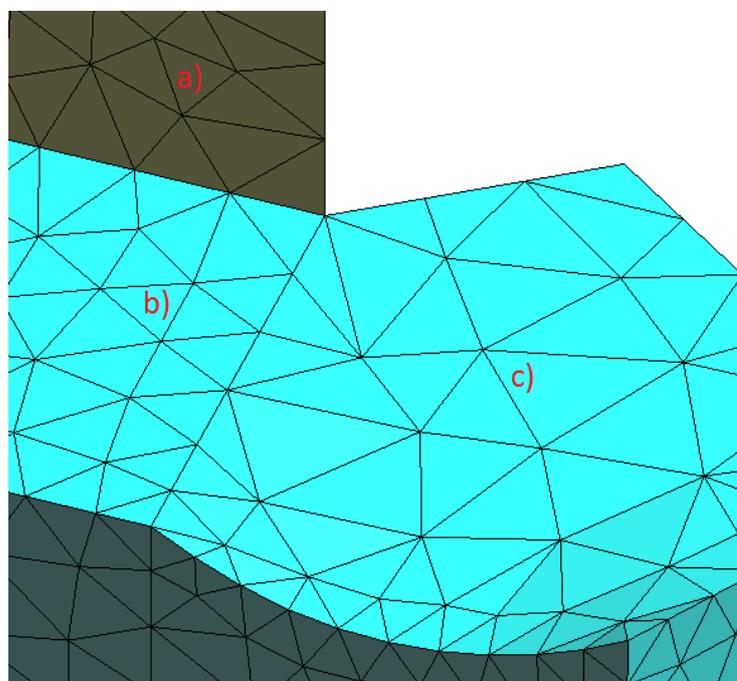

Figure 3. Different render styles: a) surface mesh, b) volume mesh, c) surface mesh and volume mesh together (surface layer is red and volume layer is blue)
- 5 . Select **Render->Flat** to see the mesh in render mode. As is shown in Figure 3, volume meshes are
represented a little bit differently from surface meshes, although in both cases triangles are shown. If the triangles you see are the boundary of a volume mesh, they are shown with black edges that are thicker than surface meshes triangles. If the triangles form a boundary volume mesh and, at the same time, a triangle surface mesh (this can be obtained if surfaces are selected with the option **Mesh->Mesh criteria->MeshSurfaces**), the wider edges are colored with the color of the surface layer. Examples of these different kinds of render are shown in Figure 3.